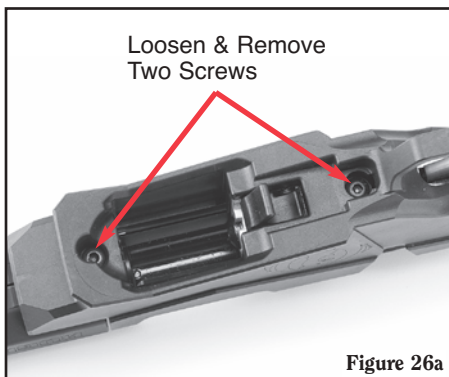

Figure 26a
c. Loosen and remove the two bedding screws in the bottom of the stock (see Figure 26a).